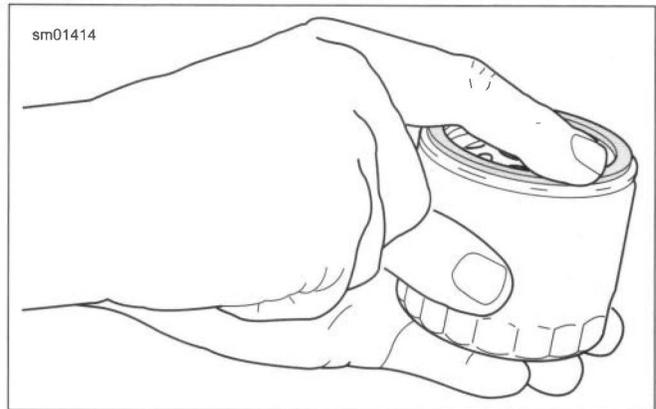

Figure 2-5. Lubricating New Oil Filter Gasket
9. See Figure 2-5. Install **new** oil filter.